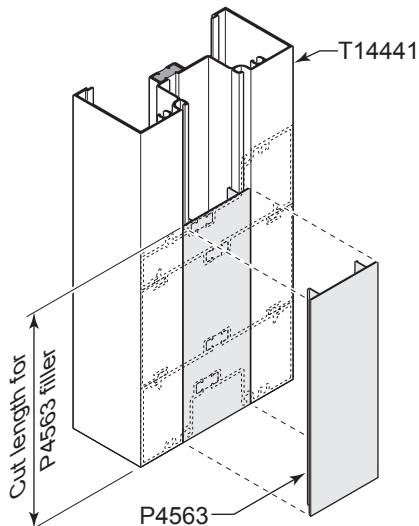

Fig. 31.1
- A. Pre-attach P4563 pocket filler into the pocket of the vertical mullion and closure pocket members. Cut length of the filler can be determined by measuring from the bottom of the vertical mullion/closure pocket to the underside of the water diverter at the high sidelite base. **SEE Fig. 31.1**